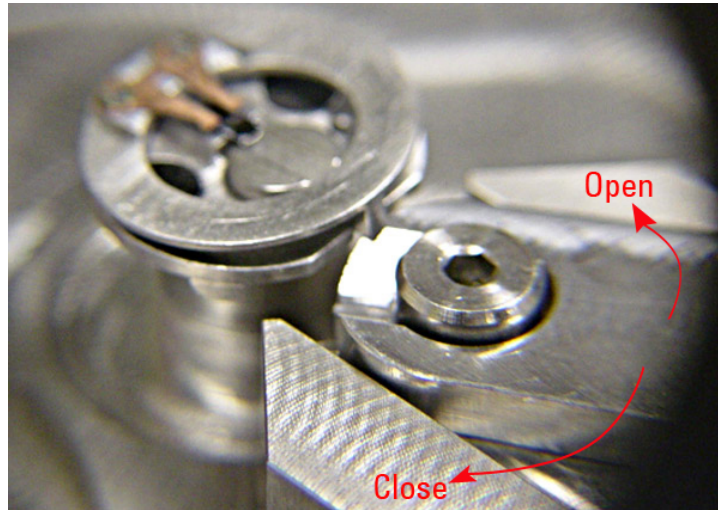

Figure 52 Move the lever to open the nose assembly disk.
- 3 Move the assembly fixture lever to the right, which will slightly separate the nose assembly disk (Figure 52).